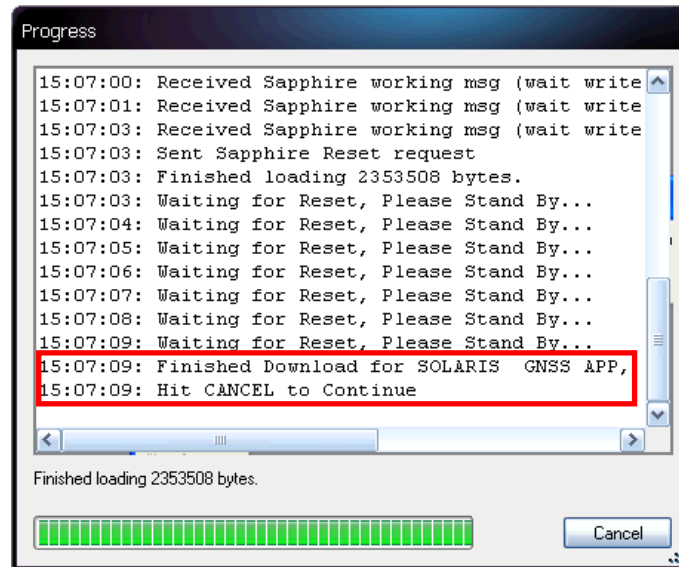

Figure 74: Progress [Load Firmware] Dialog Box
7. Click . A *Progress* dialog box opens. At the end of the upload, a “Finished loading” message indicating the number of bytes downloaded is displayed on the *Progress* dialog box (see Figure 74) . Click  to continue.